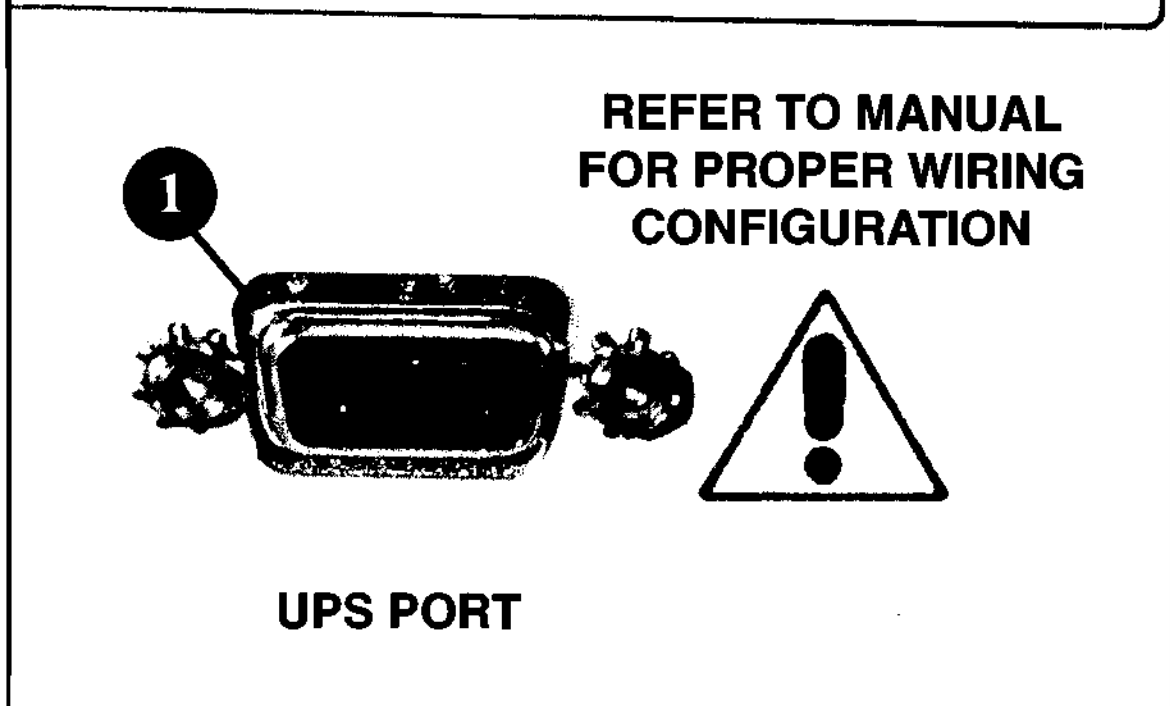

Figure 2-5. UPS port Connector
8. Refer to Figure 2-5. Connect the RS-232 cable to the **UPS Port** ① connector on the back of the UPS. Secure the RS-232 cable to the connector by tightening the small mounting screws on each side of the connector with your fingers or a small blade screwdriver.